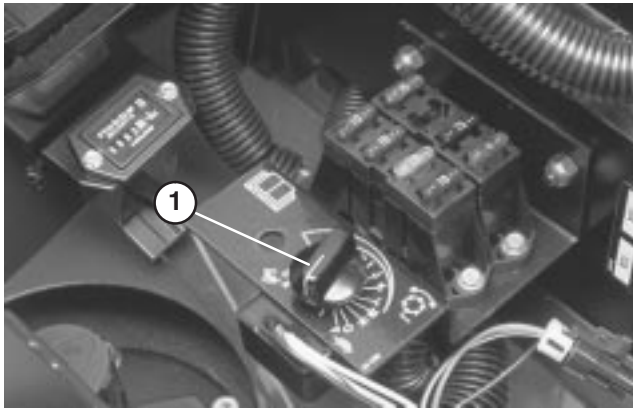

Figure 59
3. Open control cover and turn the H.O.C. selection knob to position "P" (Fig. 59).